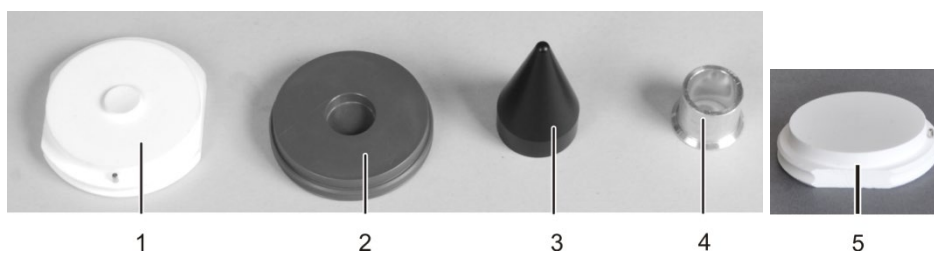

Fig. 101 Accessories of the integrating sphere
3. Place the reflector (4 in Fig. 101) up to the stop in the round opening in the center of the rear adapter for the cell holder.
3. Place the reflector (4 in Fig. 101) up to the stop in the round opening in the center of the adapter for the cell holder.
- Insert the gloss trap (3 in Fig. 101).
1. Fill the sample carrier with the sample (2 in Fig. 101). Lightly press down the sample and smoothen the surface.
2. Perform the reference measurement. Here either the flat Spectralon insert supplied or a Spectralon standard (5 in Fig. 101) to be ordered separately can be used as reference.